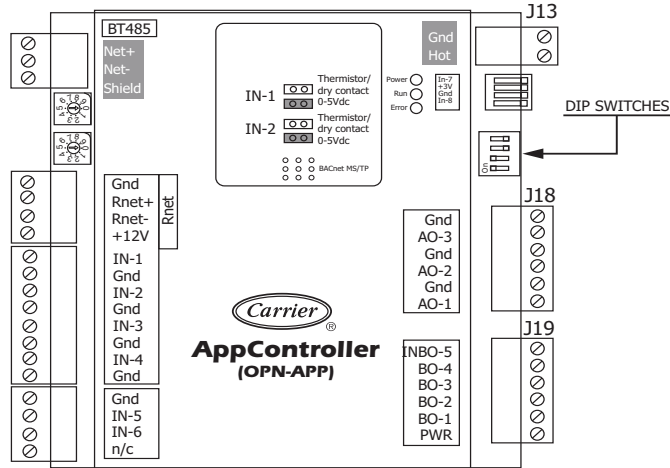

Fig. 7 — DIP Switch Locations
1. The AppController communicates with each chiller using BACnet communication on an MS/TP network. The network segment communicates at 9600 bps, 19.2 kbps, 38.4 kbps, or 76.8 kbps. The factory default setting for both the AppController and UPC open module is 76.8 kbps. It is recommended to use the default baud rate. The baud rate is set using DIP switches on each module. See Fig. 7 for DIP switch location on the AppController. Table 4 shows DIP switch settings for adjusting the baud rate.